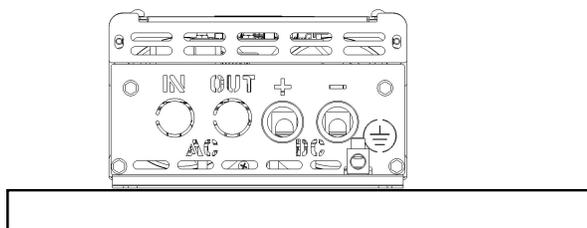
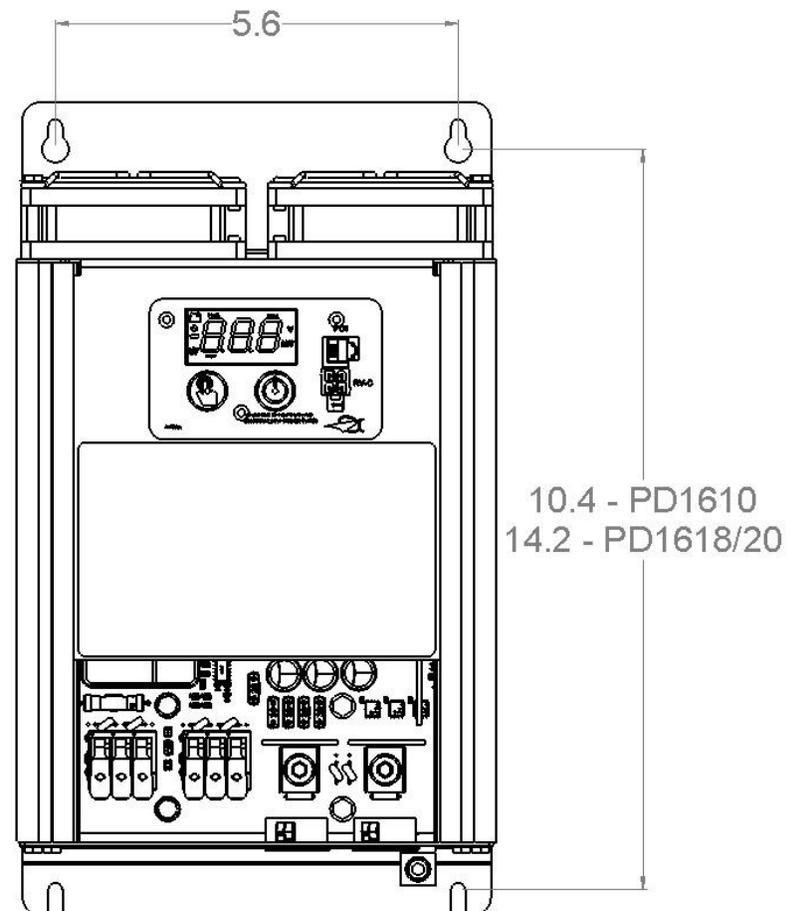

Figure 6 Horizontal Mounting Configuration
Figure 7 Inverter Mounting Hole Pattern
3. Use the inverter as a drill guide by placing it flush against the mounting surface and marking the appropriate hole locations in the mounting surface (see Figure 7). Horizontal mounting of the PD1600 Series Inverter is recommended (see Figure 6), although it can be mounted in a vertical position that provides unobstructed ventilation to the fan and vent holes.